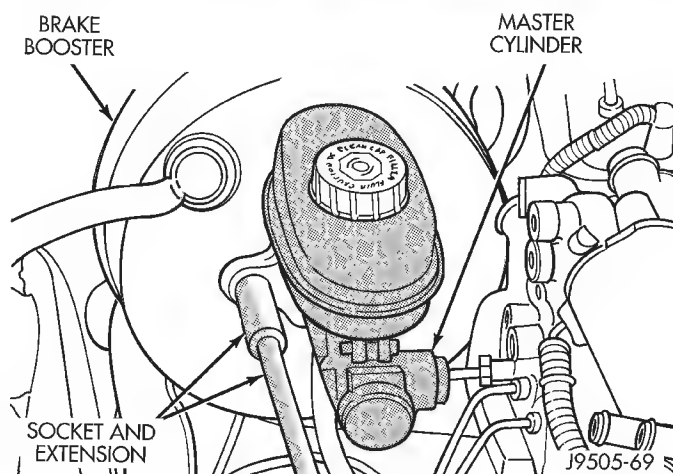
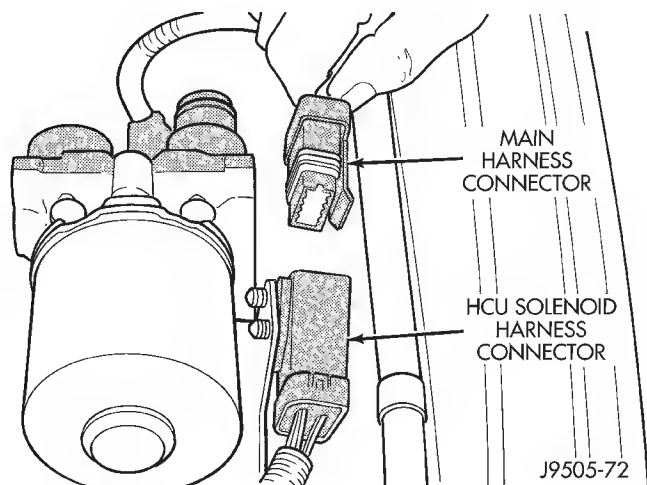

Fig. 12 Master Cylinder Attaching Nut Removal
Fig. 13 Disconnecting HCU Solenoid Harness
(17) Remove nuts attaching master cylinder to booster studs and remove cylinder (Fig. 12).
(18) Remove master cylinder reservoir cap and drain fluid.
(19) Disconnect HCU solenoid harness from main harness (Fig. 13).
(13) If HCU mounting bracket was not removed, press solenoid harness connector fasteners into mounting bracket holes.
(14) Connect HCU pump motor and solenoid harnesses (Figs. 13 and 14).